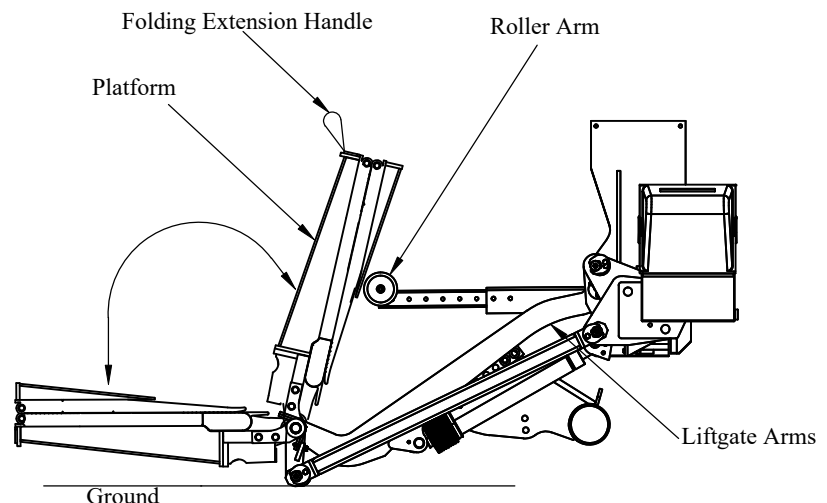

Figure 35: Step 6.
6. With the liftgate arms touching the ground, stand off to the side, and unfold the platform (Figure 35).
10. To close the platform, stand to the side of the platform, not under or behind the platform. With the liftgate lowered, close and lock the platform cart stops, if so equipped, then fold the folding extension by lifting on the handle (Figure 35).